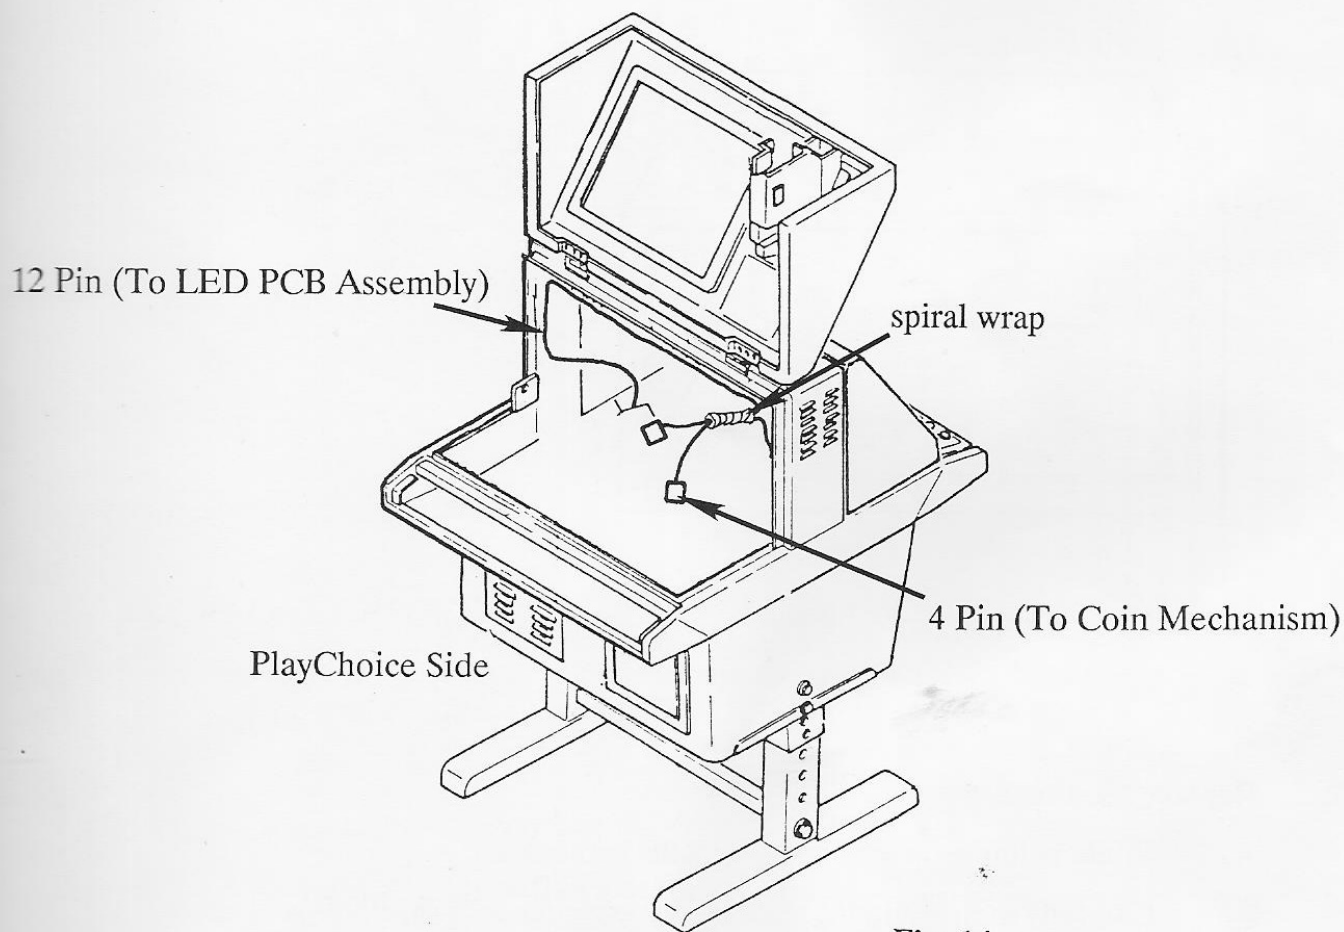

Fig. 14
- H. Wrap the 4 Pin coin harness and 12 Pin LED harness with the spiral wrap tubing (provided) to protect them from table lid movement. Connect the harnesses (see Figure 14).
- J. Use the four (4) screw down wire ties mounted in the bottom of the chassis to secure all of the remaining loose wire harnesses.